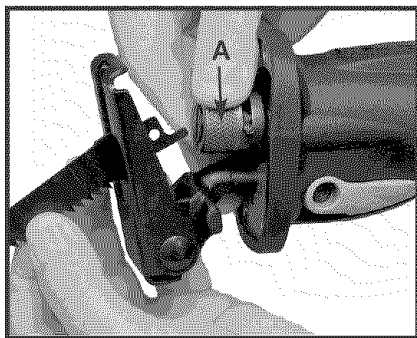
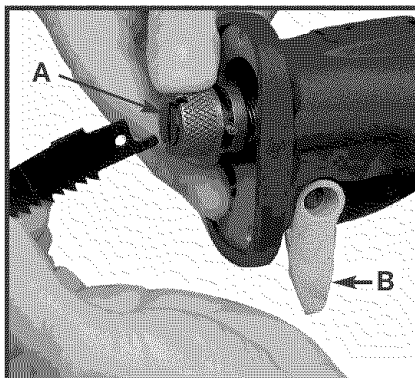

Fig. 2
Fig. 3
3. To open the blade clamp, rotate and hold the blade release collar (A) **Fig. 2** or **Fig. 3** counter-clockwise (as viewed from the front of the saw).
NOTE: The keyless quick-change pivoting guide shoe can be temporarily removed to make blade installation easier. Release locking lever (B) **Fig. 3** to remove (see **PIVOTING GUIDE SHOE ADJUSTMENT** section of this manual).